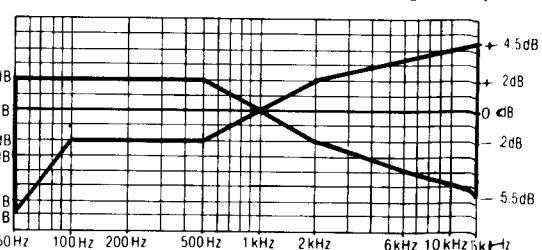

Fig. 17
8. Change test tape to CrO_2 reference blank test tape (QZZCRX), and record 1kHz, 50Hz, 100Hz, 200Hz, 500Hz, 4kHz, 8kHz, 10kHz and 15kHz signals. Then, playback the signals and check if the curve is within the limits shown in the overall frequency response chart for CrO_2 tapes (fig. 17).
9. Place UNIT into metal tape mode and change test tape to metal reference blank test tape (QZZCRZ), and record 1kHz, 50Hz, 100Hz, 200Hz, 500Hz, 4kHz, 8kHz, 10kHz, 12.5kHz and 15kHz signals. Then, playback the signals and check if the curve is within the limits shown in the overall frequency response chart for metal tapes (fig. 17).